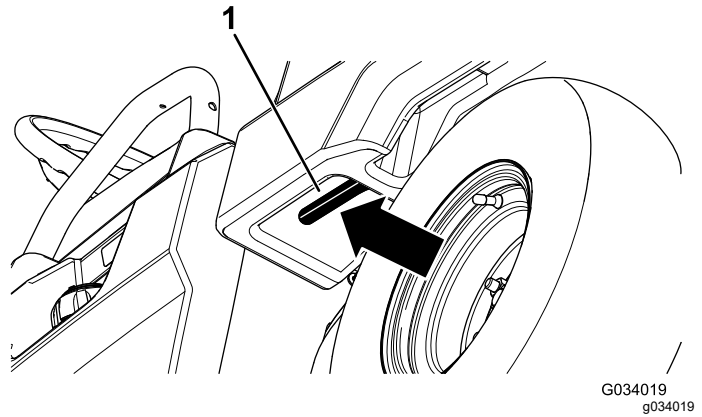

Figure 19
1. Pull the lever on left, inside of the cargo bed toward you and lift the cargo bed up (Figure 19).
1. Raise the cargo bed slightly by lifting up on the latch lever (Figure 19).